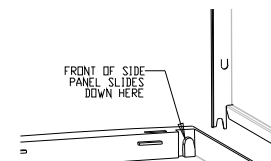

Figure 7
7. Make sure the ears at the bottom of the side panel are outside of the metal base before trying to slide it down. The front ear has a notch to slide over a raised area in the plastic base (see figure 7).